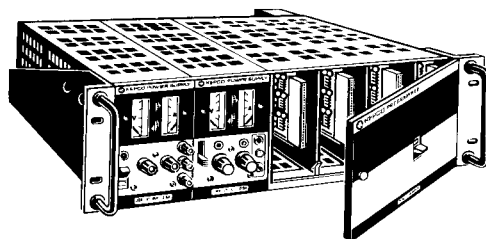

FIG. 1-2 KEPKO MODEL SN 488-4 RACK HOUSING.
- 1-9 **Kepco Model SNR 488-4**, with built-in interface card, is a 19" rack housing with slots for four (4) programming cards and with room for either two (2) "quarter rack" or one (1) "half-rack" Kepco power supply (see FIG. 1-2).